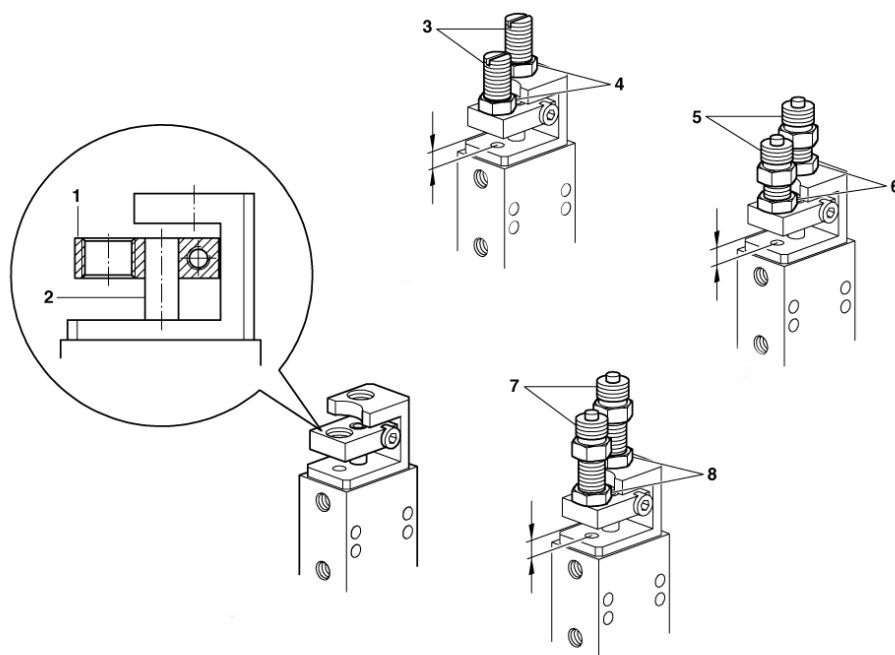

Fig. 18 Stroke adjustment of the gripper
If the GMQ has been converted to internal clamping or the spring has been removed, the stroke stop (1) must be reconnected firmly and flush with the piston rod (2) (Fig. 18).